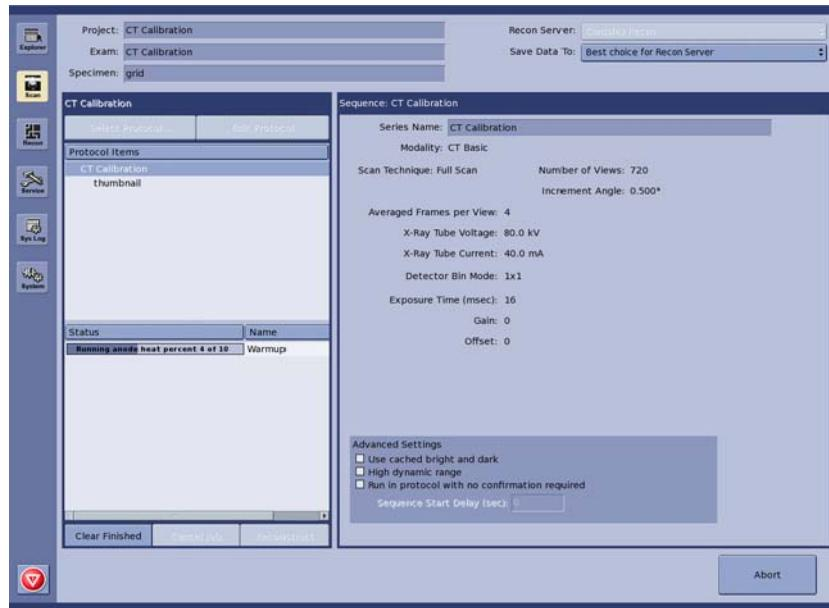

Figure 7-68
- 6.) From the Scan page, click the CT Warmup button and wait for the warmup to finish (Figure 7-68). For the SRI tube this period is typically 7 minutes and for the Dunlee tube, approximately 5 minutes. X-rays should fire and lights should be on. If not, check that the side shield is properly closed or that an interlock key is in place.